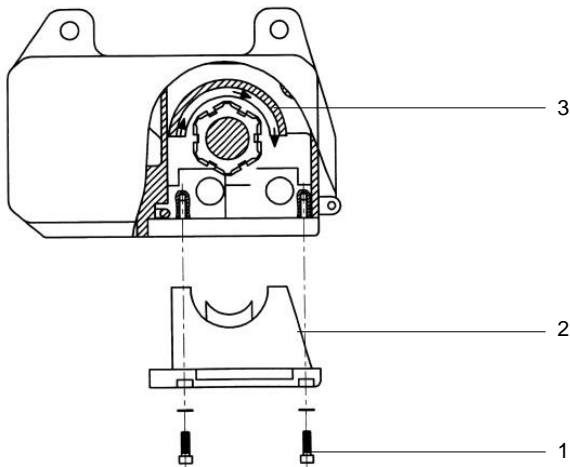

Figure 18: Replacing the load chain, the chain guide and hold down
3. Loose the four screws (part no. 1 in Figure 18) of the chain guide, than take the chain guide out of the hoist (Figure 17 C) and pull the U-shaped fork back.